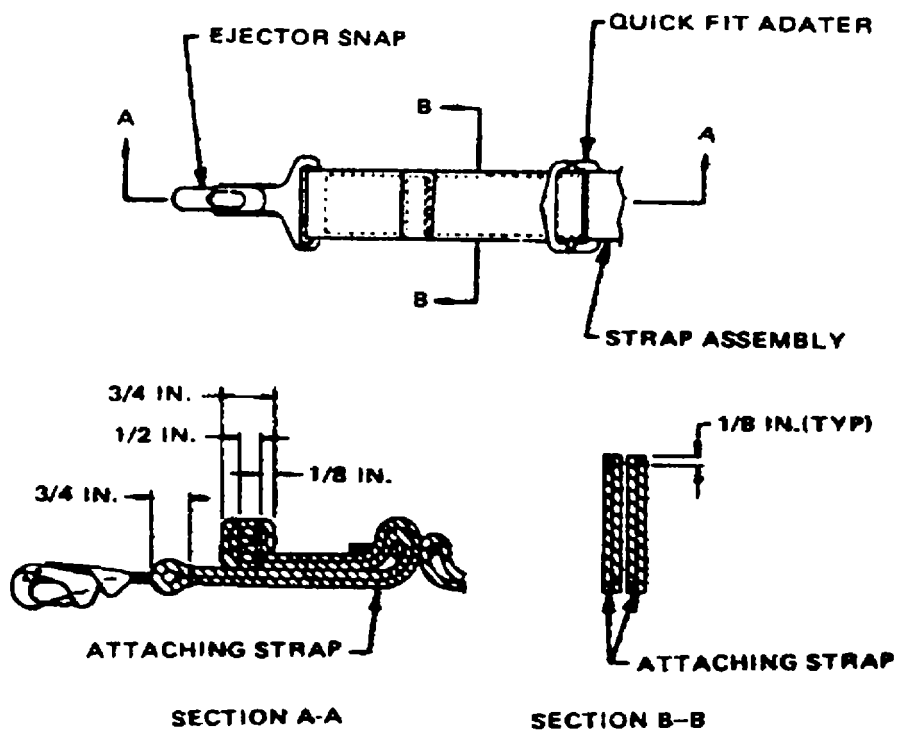

Figure 2-10. Attaching Strap Replacement Details, Typical
- (d) Replacing an attaching strap (See Figure 2-10). Replace an unserviceable attaching strap on either end of the inner case strap assembly by fabricating as follows:
- (1) Cut the end loop on the attaching strap and remove the ejector snap from the loop. Further remove the cut strap from the applicable strap assembly quick fit adapter.
- (2) Inspect the original ejector snap for serviceability. If the snap is defective, replace with a serviceable item from stock.
- (3) Cut a 28-inch length of nylon webbing (D67) and separate ends.
- (4) Pass one end of the webbing length around the snap attaching bar to form a loop on the snap bottom end and align the webbing ends. Secure the doubled webbing by stitching a box-stitch formation along the full length of the webbing to a point 3/4 inch from the formed loop on the snap. Make the stitching 1/8 inch in from the webbing edges in accordance with paragraph 2.12, using the specifics in Table 24.
- (5) With the face of the ejector snap facing down, pass the running end of the replacement attaching strap around the raised part of the quick fit adapter center sliding bar and back toward the ejector snap.
- (6) Make a double 3/4-inch foldback on the strap running end and secure the foldback on the strap running end with two rows of stitching using the specifics in Table 24. Stitching will be made in accordance with paragraph 2.12.